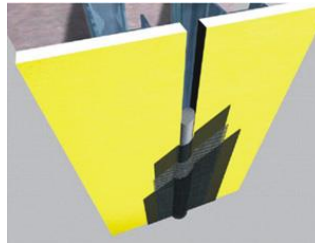

Figure 11
- c. Using a brush or 3/4 in (19 mm) nap roller, apply a liberal coat of AquaFlash Liquid material to the backer rod and adjacent substrate surface to the width of the AquaFlash Mesh - Figure 11.